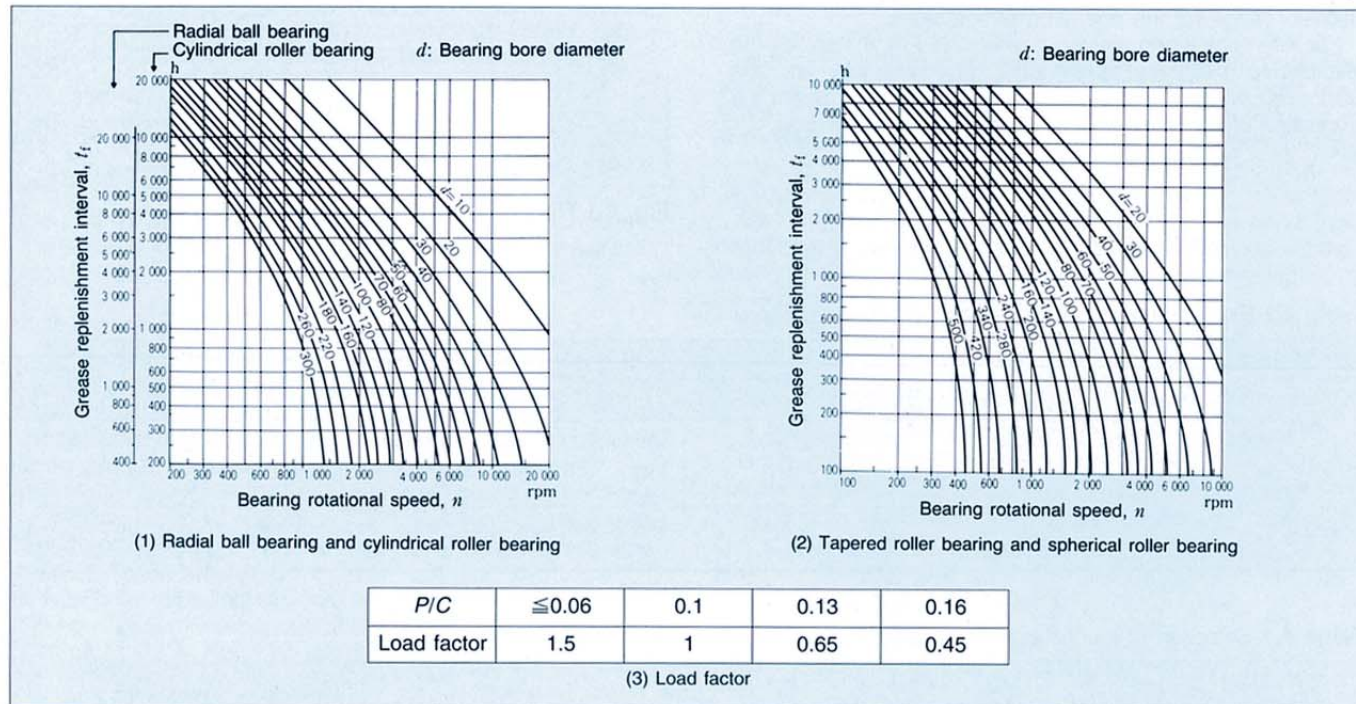

Fig. 4.2 Grease replenishment intervals
(1) Replenishing Interval
Even if high-quality grease is used, there is deterioration of its properties with time; therefore, periodic replenishment is required. Figs.4.2 (1) and (2) show the replenishment time intervals for various bearing types running at different speeds. Figs.4.2 (1) and (2) apply for the condition of high-quality lithium soap-mineral oil grease, bearing temperature of 70°C, and normal load ($P/C=0.1$).
In case of ball bearings especially, the replenishing time interval can be extended depending on used grease type. (For example, high-quality lithium soap-synthetic oil grease may extend about two times of replenishing time interval shown in Fig.4.2 (1). If the temperature of the bearings is
Please refer to Fig.4.2 (3), and multiply the replenishing time interval by the load factor.